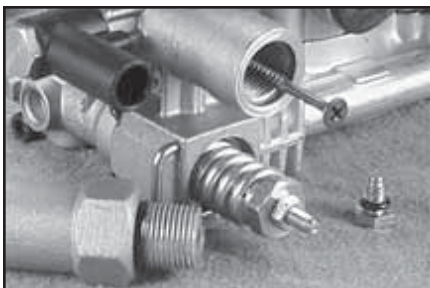

Figure 3
3. Thread a standard deck screw 1 to 1-1/2 turns into the plastic injection nipple (Figure 3).